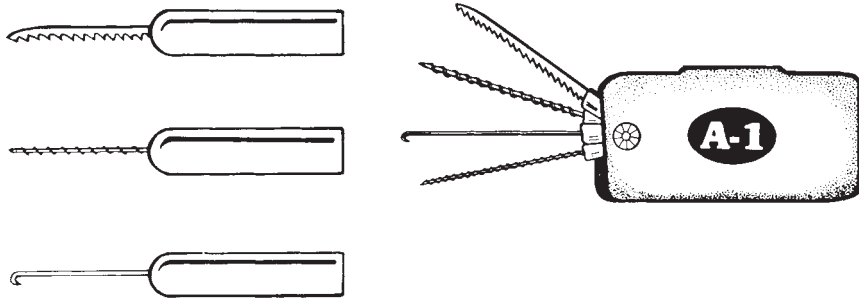

Figure 2.29 Broken-key extractors are useful for removing broken key parts from locks. (A-1 Security Manufacturing Corp.)
- Broken-key extractors (Fig. 2.29)